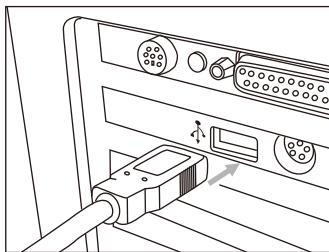

Figure 10
- 5) Insert the other end of the USB transmission cable into the free connection port on the back of the host computer, as shown in the figure10: